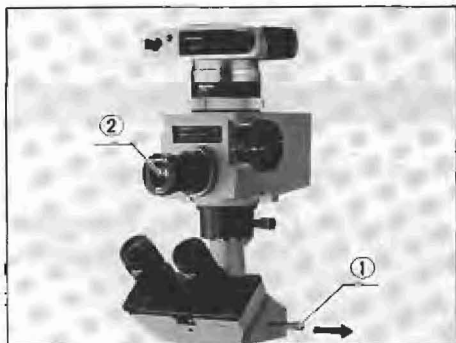

Fig. 27
- 1) Each of these attachments can be mounted on the photo tube of the trinocular tube as photographed in Fig. 27. (Fig. 27 shows the PM-10AK on the trinocular tube.)
- 3) Pull out the light path selector lever (1) to deflect the light to the photo tube. (Fig. 27)
- 4) Looking through the focusing telescope (2), focus on the specimen. (Fig. 27)